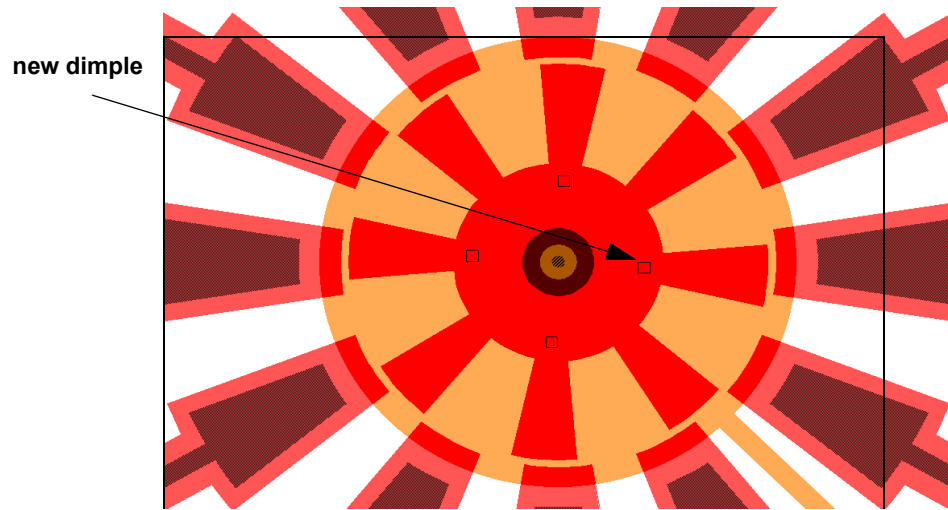

Figure 33: Creating a dimple
- ☑ Move the dimple to a different location with a center-click (**Alt+Left** click for two button mice), hold, drag and release at the desired location. The dimple should be placed to the right of the rotor's center so that it is approximately 90° away from the next nearest dimples (Figure 33).